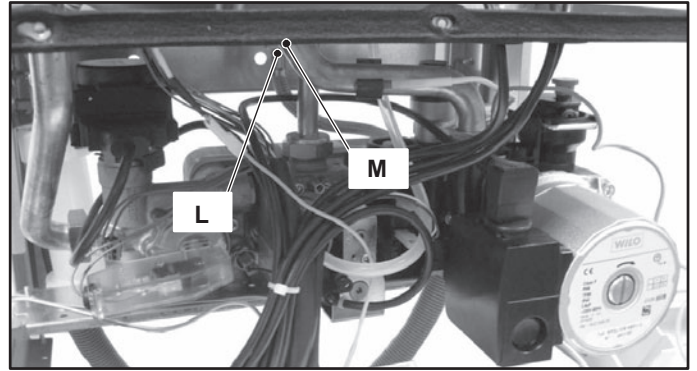

Figure 13.2
- 2 Completely unscrew the connection L, the locknut M (Figure 13.2) and remove the expansion vessel from the top of the boiler.